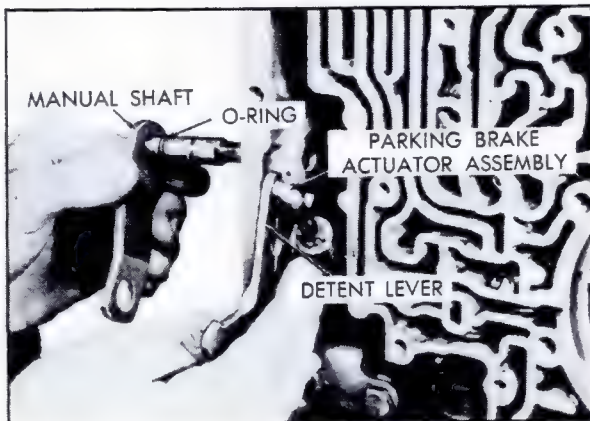

Fig. 7-215 Installing Manual Shaft
f. Install the manual shaft assembly through the case and detent lever, Fig. 7-215, and install the retaining lock nut on manual shaft.